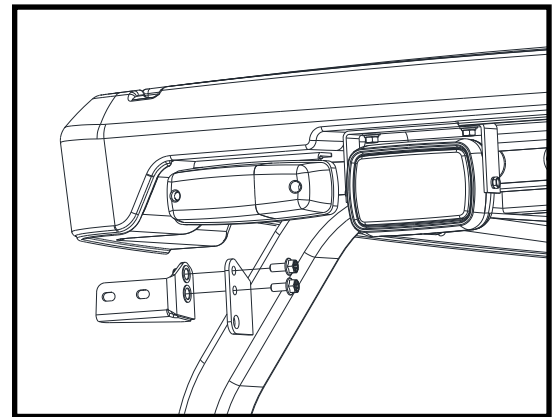

Figure 5.4: Upper Rear Mount
- 5.4 Install left upper rear mount (see Figure 5.4. Frame and rear panel are hidden). Leave hardware loose.